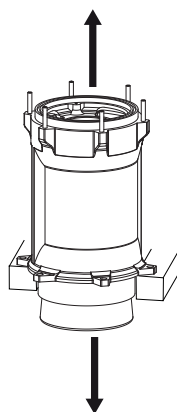

Figure 21: Removal of stator
8.1 Removal of stator (Figure 21, 22)